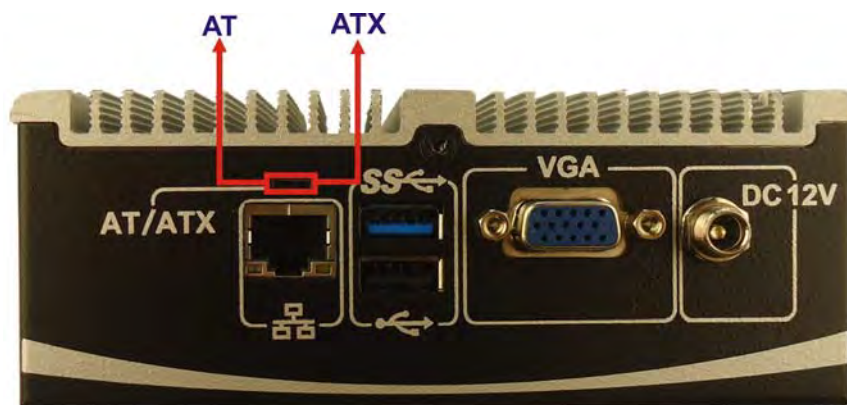

Figure 3-5: AT/ATX Switch Location
AT or ATX power mode can be used on the uIBX-230-BT. The selection is made through an AT/ATX switch located on the rear panel (Figure 3-5). To select AT mode or ATX mode, follow the steps below.
Step 1: Locate the AT/ATX switch on the rear panel (**Figure 3-5**).